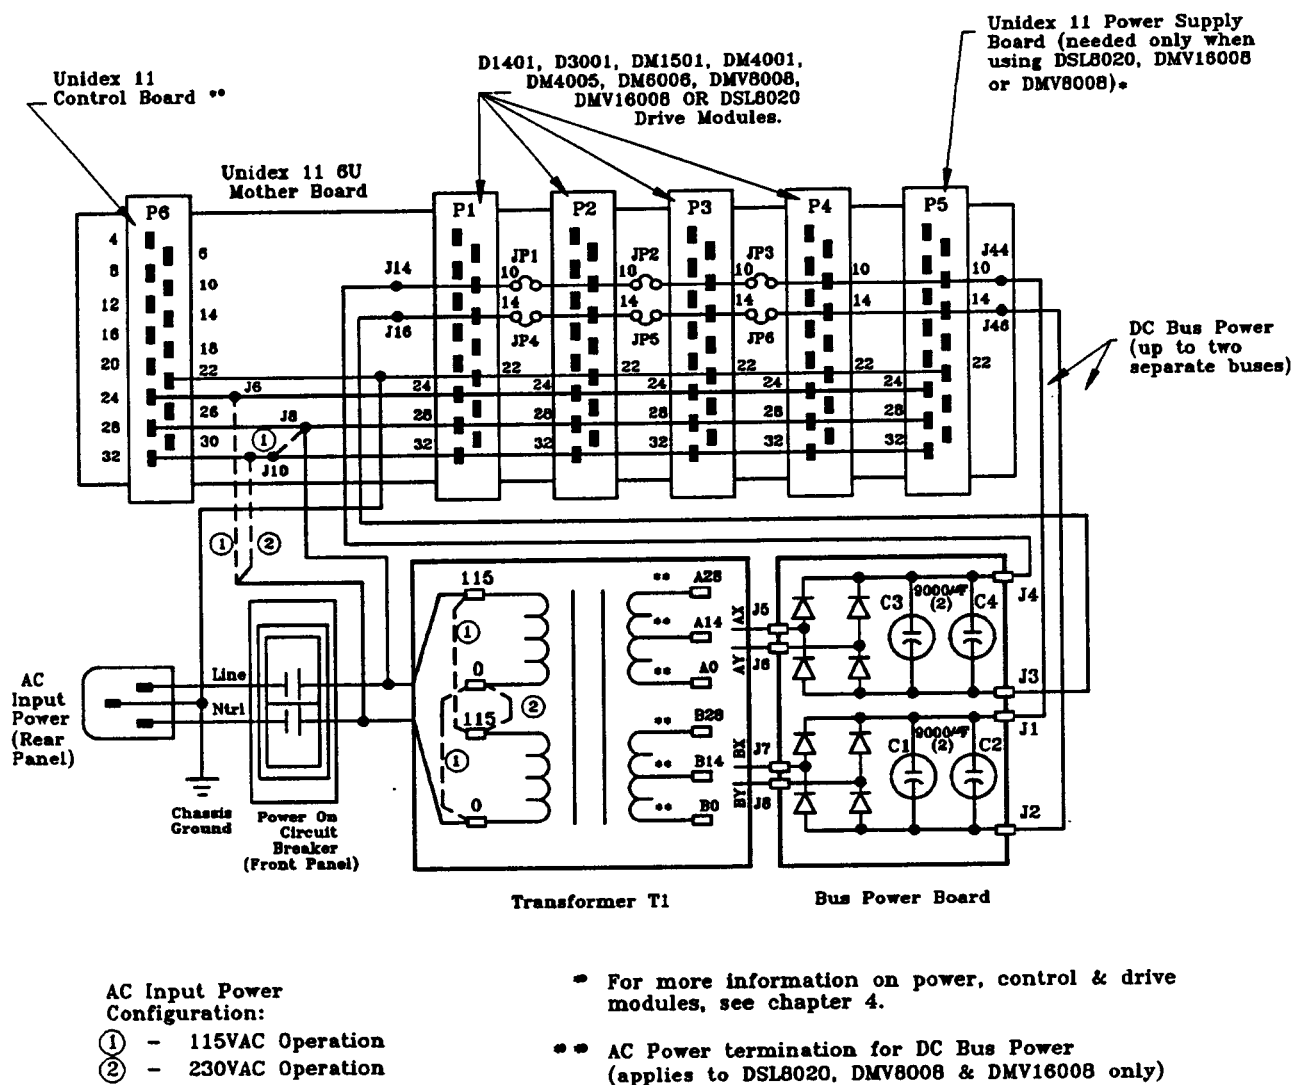
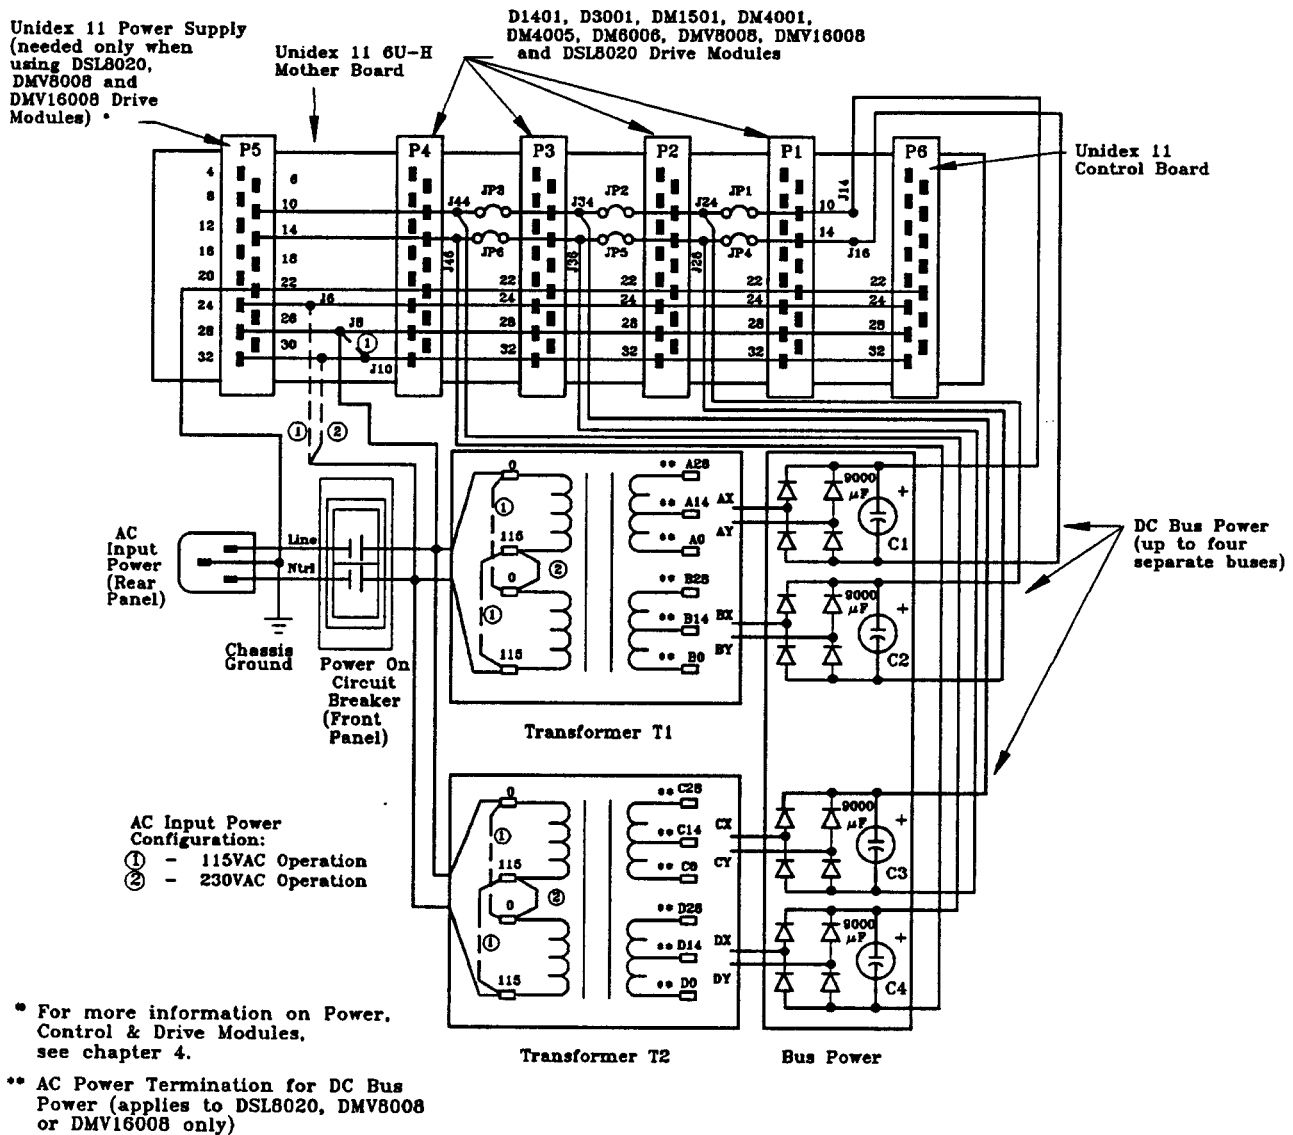
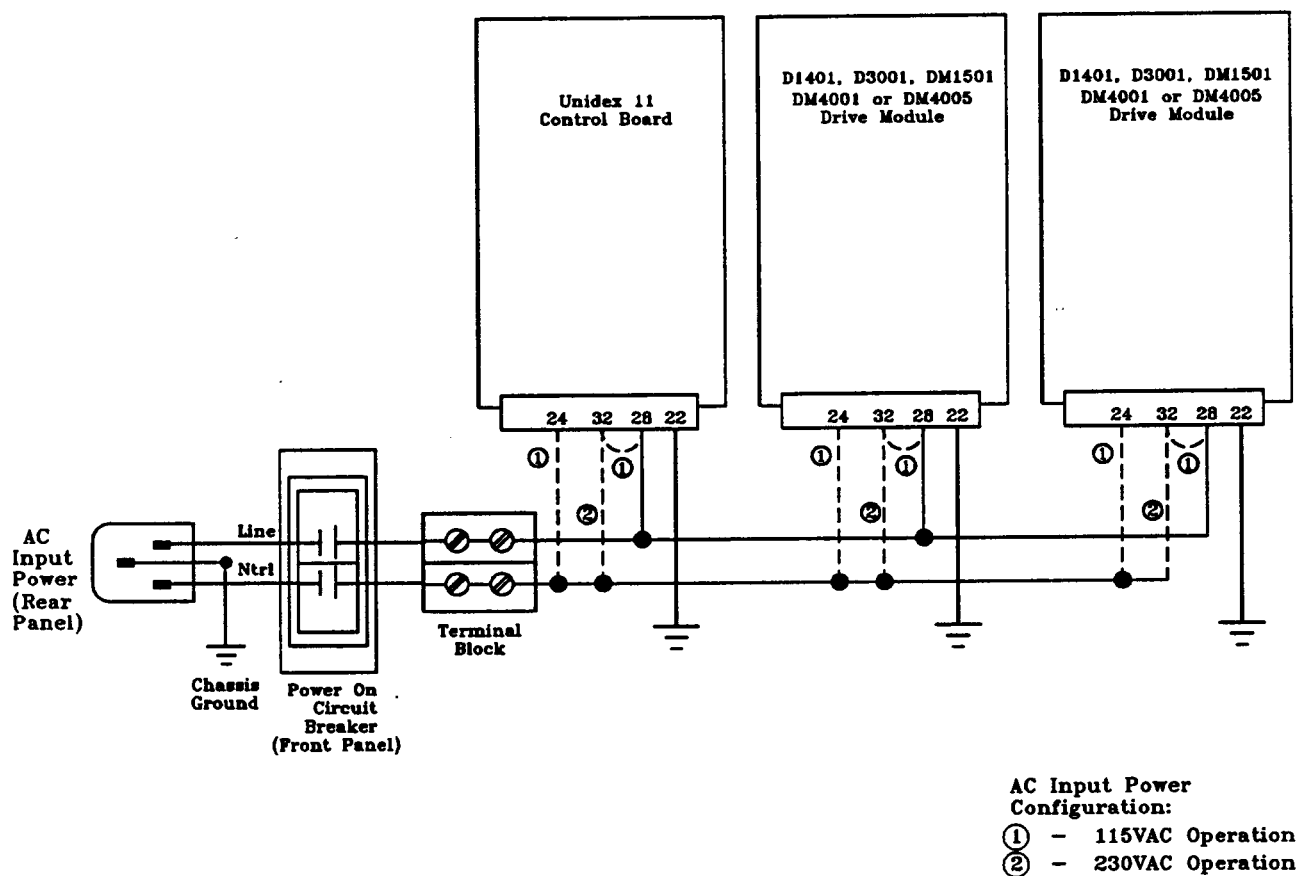

Figure 3-1: Simplified Wiring Diagram of U11S & U11R Chassis with Front Panel Removed (see Figure 3-4 for Outline)
Figure 3-2: Simplified Wiring Diagram of the U11H Chassis with Top Cover Removed (See Figure 3-5 for Outline)
Figure 3-3: Simplified Wiring Diagram of the U11M Chassis with Top Cover Removed (See Figure 3-6 for Outline)
A simplified wiring diagram of the U11S and U11R is shown in figure 3-1. An accompanying outline of these chassis with front panel removed is shown in figure 3-4. A simplified wiring diagram of the U11H chassis is shown in figure 3-2 with an accompanying outline shown in figure 3-5 (top cover removed). Finally, a simplified wiring diagram of the U11M chassis is shown in figure 3-3 with its outline shown in figure 3-6 (top cover removed).
The DC bus power supply for the U11S, U11R and U11H chassis (see figures 3-1 and 3-2) can be configured for a variety of DC voltage levels for use with the DMV8008, DMV16008 and DSL8020 drive modules. The possible DC bus voltage levels for a given chassis is as follows:
The secondary side of transformer T1 (and T2) provides the necessary AC voltage to be rectified to DC (see figures 3-1 and 3-2).
IMPORTANT NOTE: The drive module slots (P1 - P4, see figures 3-1, 3-2, 3-4 and 3-5) are electrically inter-connected so that damage will *NOT* occur to a given module or motor (if, for example, a stepping drive module is inadvertently plugged into a slot setup for DC servo operation). Nevertheless, *special care should be taken when removing the drive modules from the Unidex 11 chassis.*
* See figure 3-2 for more information.